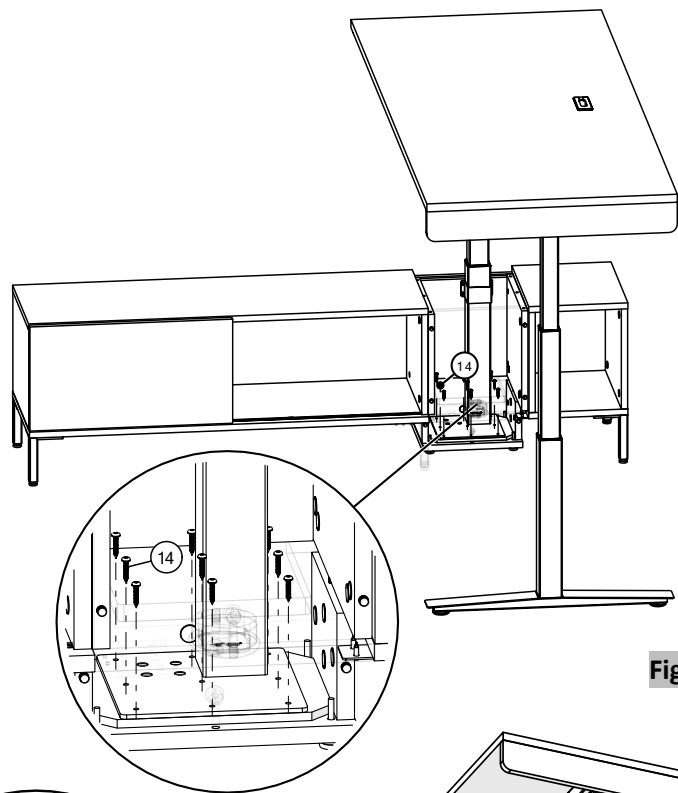

Figure 10
- 16. Securely fasten the HAT leg mounting plate to bottom filler of HAT integration box using #10 x 1" Pan Head Screws. (Figure 10).